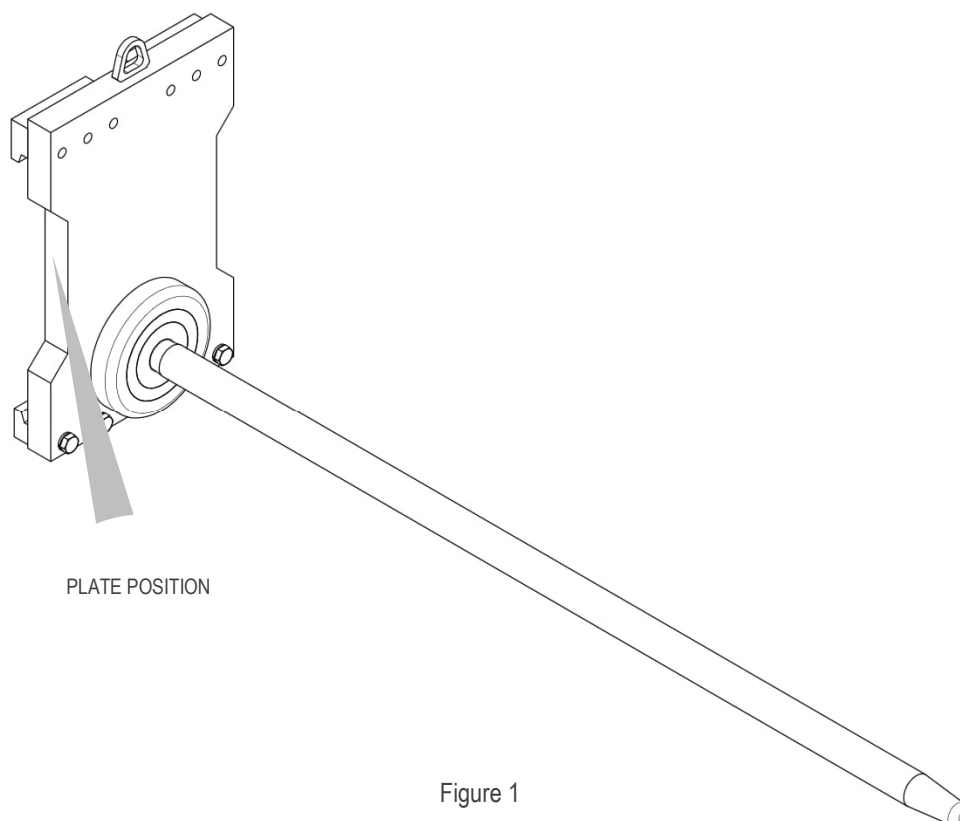

Figure 1
All the A.T.I.B. equipment - "BOOM TYPE 940 " is identified by means of an adhesive plate (see Table 1) positioned on the equipment (see Figure 1), *always refer to the serial number.*
4. For handling, appropriately sized belts and/or chains must be used with regard to the weight of the equipment as indicated on the plate (see Figure 1 and Table 1 on page 4).